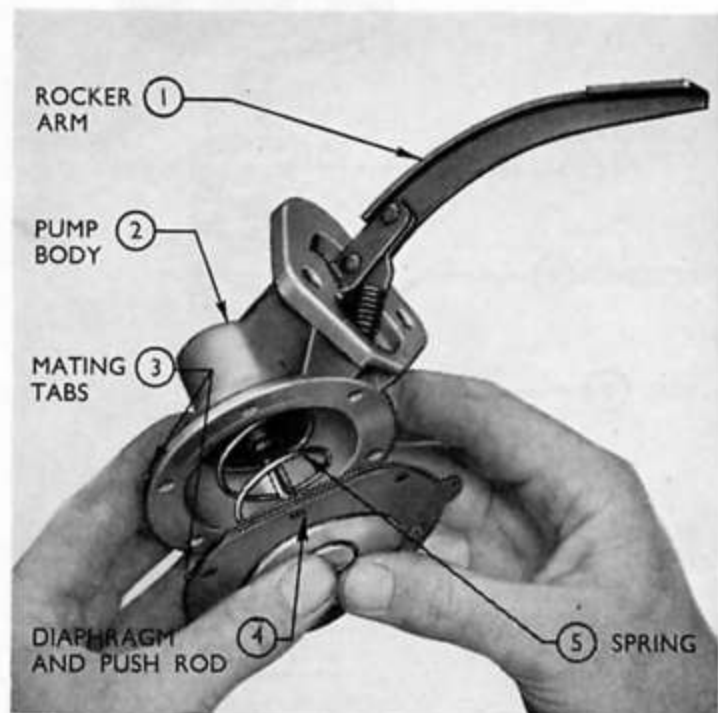

Fig. 31
3. Insert the end of the rod in the slotted end of the link, engaging the groove in the pull rod end whilst holding the pump in an inverted position, so that the **SMALLER TAB** on the diaphragm aligns with the mating mark on the lower body flange (Fig. 31).